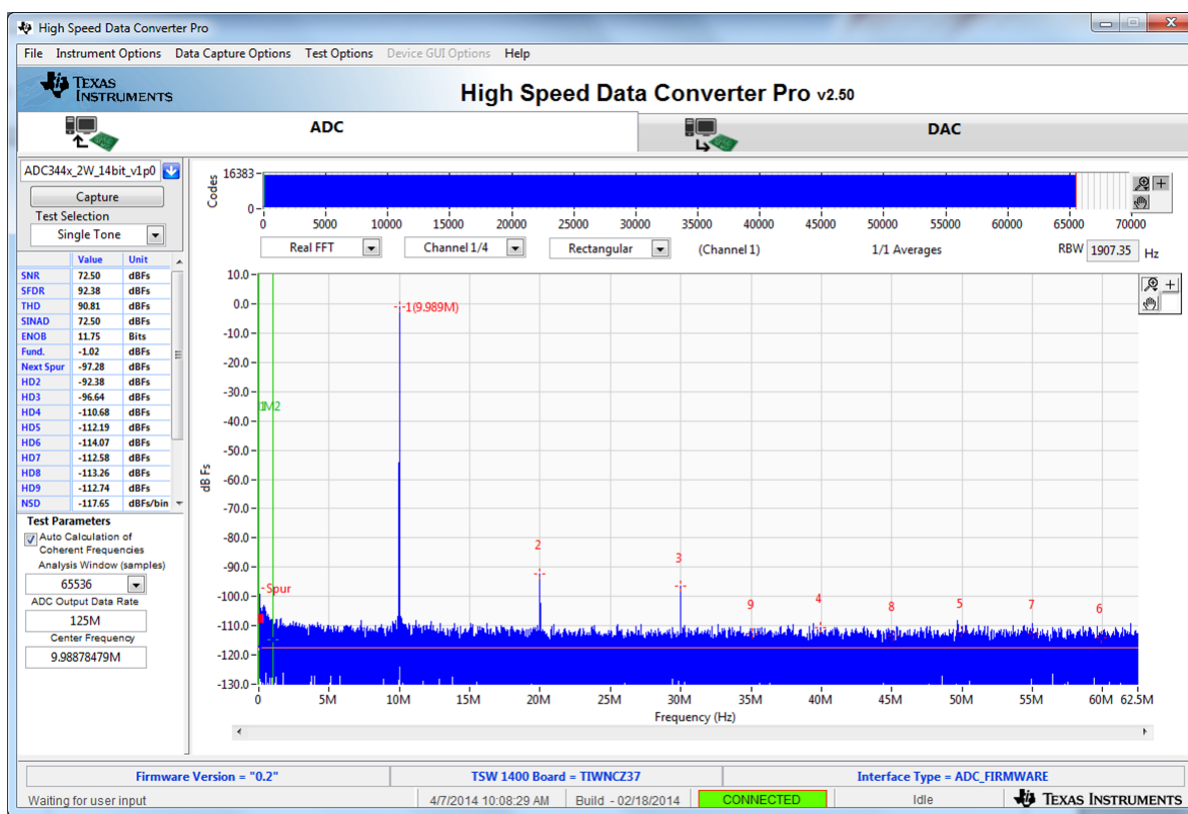

Figure 15. ADC3xxx Operating in 14-Bit Mode at 125 Msps with 10-MHz Input Signal
4. Select number of sample points (and resulting number of FFT bins) to be used. The example shown in Figure 15 has 65536 samples.
5. Enter the ADC32/34xx Sampling rate. The example shown in Figure 15 has the sample rate set at 125 Msps (filtered clock input around 10 dBm).
6. Enter the input frequency desired. If the clock and input frequency signal generators are synchronized, then make sure the checkbox for coherent frequency is checked and set the input frequency signal generator to the input frequency displayed. The example shown in Figure 15 has the input frequency set at 10MHz (9.98878479MHz if coherent). Filtered signal input around 10 dBm – adjust to achieve –1 dBFS on the HSDC Pro FFT.
9. Observe an FFT result similar to that of Figure 15